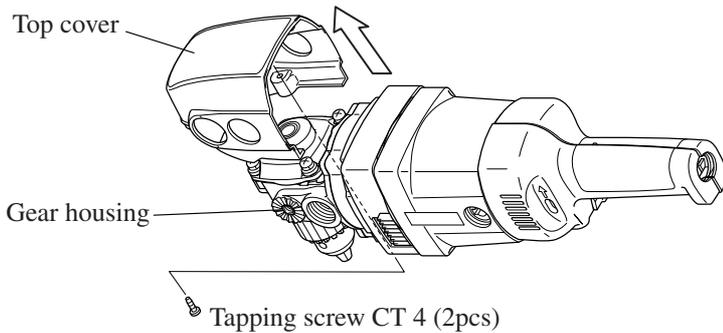

Fig. 1
(1) Disassemble top cover from gear housing by unscrewing two CT4 tapping screws as illustrated in Fig. 1.